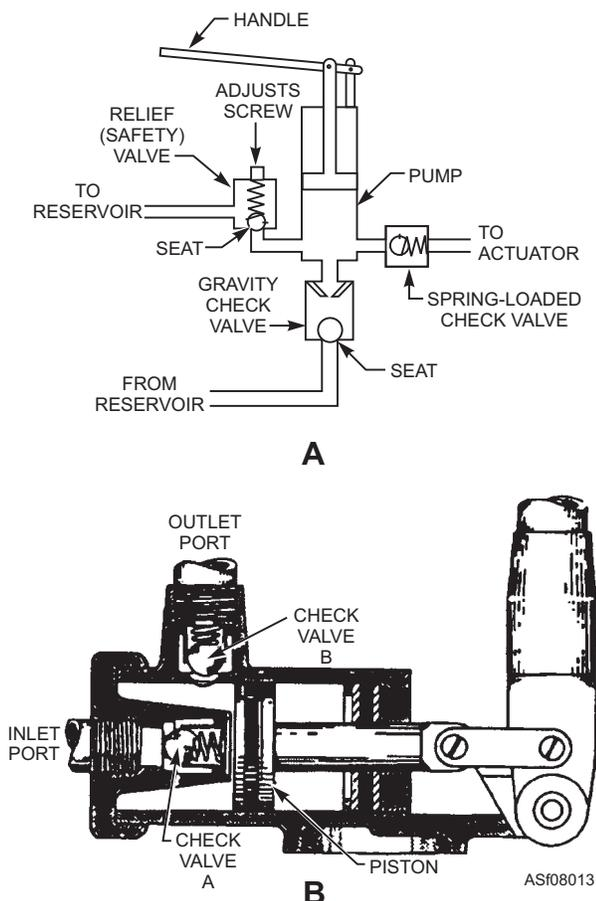

Figure 8-13.—Single-action hydraulic hand pump.
**Single-Action Hand Pumps.**—Two examples of single-action hand pumps are shown in figure 8-13. These pumps operate very much like piston (1) in figure 8-1. However, some means must be provided to trap fluid in the system and allow a new supply of fluid to enter the pump chamber during the return stroke. This is normally accomplished through the use of check valves (fig. 8-13). As noted earlier, pumps of this type are used in hydraulic jacks and hydraulically operated workstands.